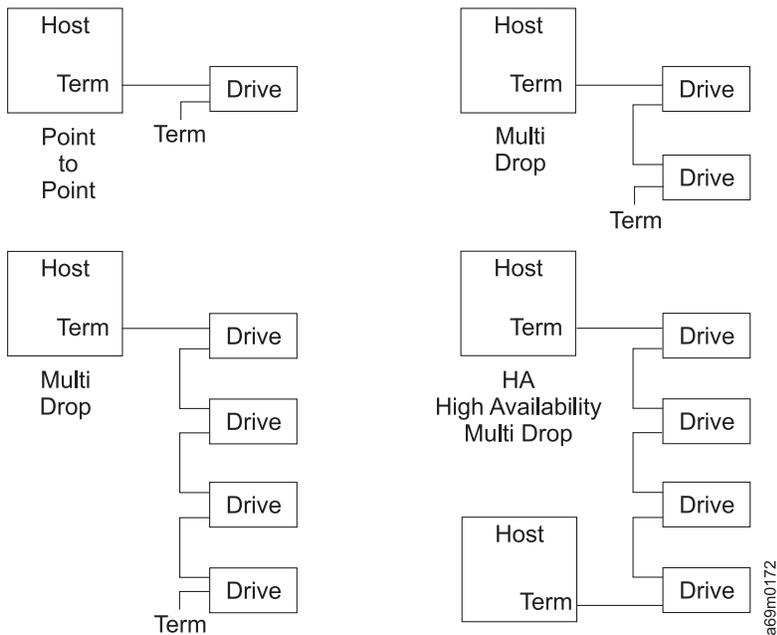

Figure 52. SCSI Interface Cables (Various Layouts)
- ___ 1. Consult with your customer and review the examples shown in Figure 52. You will be attaching necessary SCSI cables and terminators in the following steps.
Attention: The following comments apply to Figure 52.